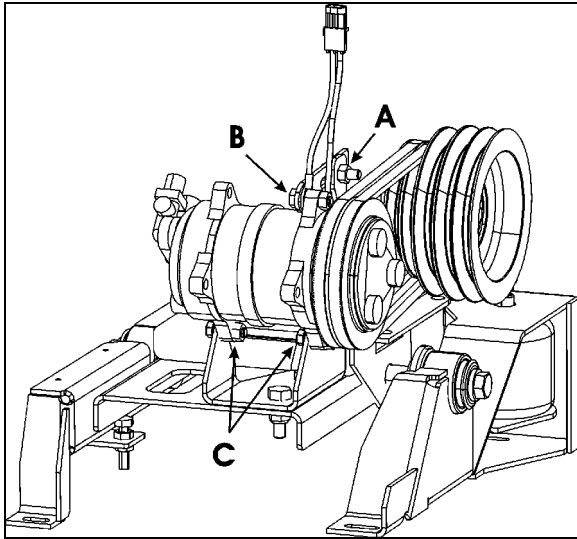

FIGURE 37: COMPRESSOR REMOVAL/ INSTALLATION
- Slacken bolts A (figure 37).